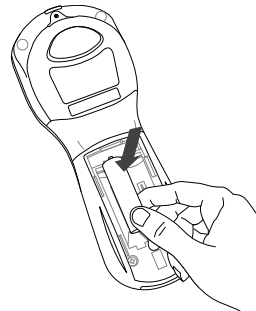

Figure 3
6. Insert the new batteries, using the + and - symbols in the battery compartment to position the new batteries with the correct polarity. (Fig. 3)